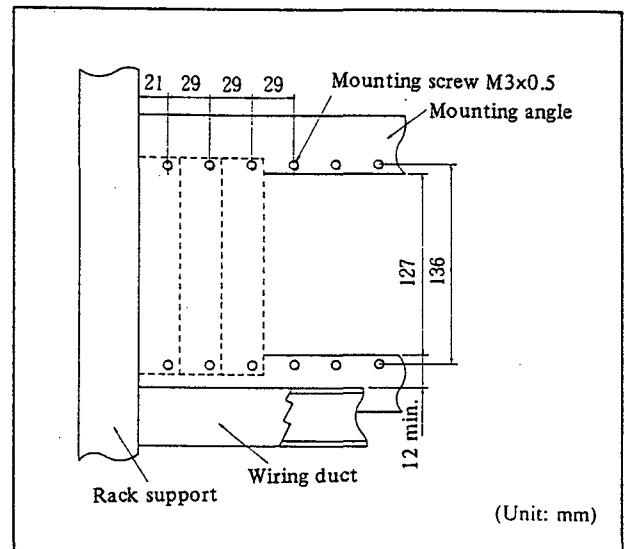

Figure 2. Direct Rack Mounting
- (1) When installing in the HB-16 Rack mounting enclosure, follow the instruction manual of Model HB-16.
- (2) When installing directly to the instrumentation panel, prepare mounting angles referring to Figure 2. When the isolator is shielded with a metallic case, ground the case.